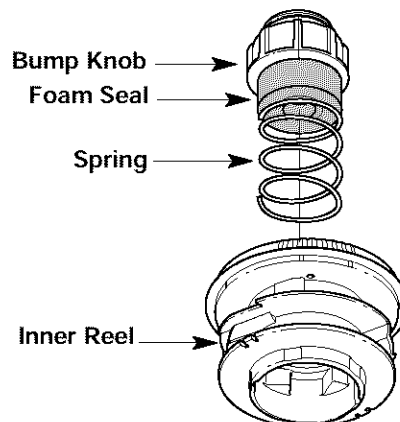

Fig. 26
1. Turn the bump knob counterclockwise and remove the bump knob, spring and foam seal (Fig. 26).
2. Pull out the bump knob, spring and foam seal (Fig. 26).
7. Place the bump knob, spring and foam seal onto the inner reel (Fig. 26).